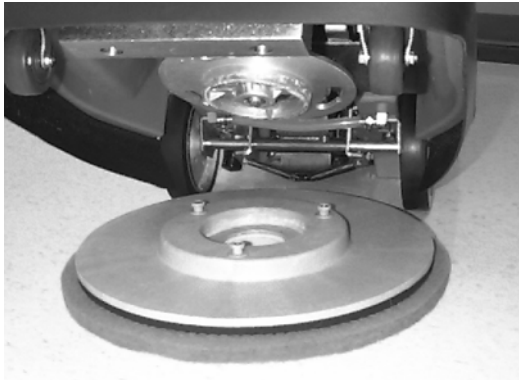

FIG. 7
7. Tilt machine back. Align brush/pad driver studs into motor hub slots and give the driver a quick turn toward the spring clip. Be certain that spring clip locks into a stud before operating machine (Figure 7).